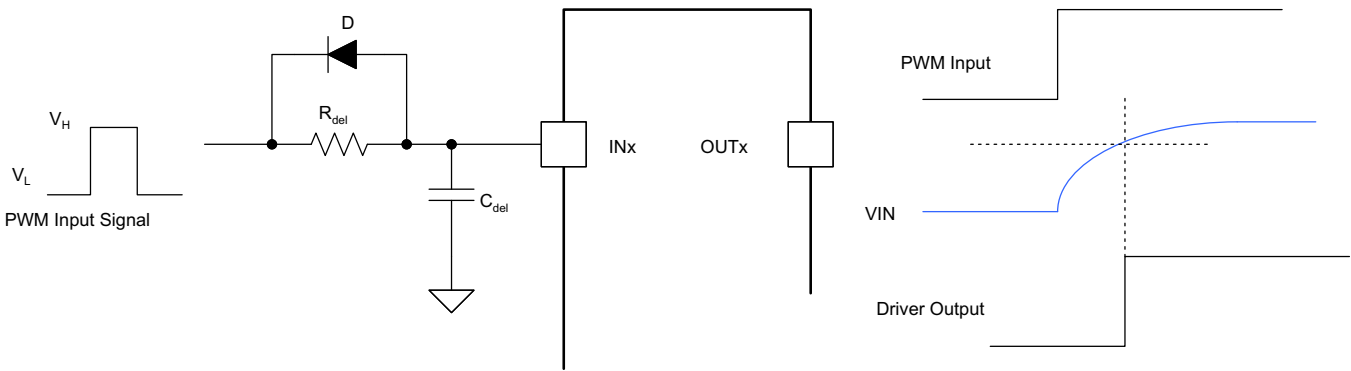

Figure 21. Using RCD Circuits
- Ability to accept slow dV/dt input signals, which allows designers to use RCD circuits on the input pin to program propagation delays in the application, as shown in Figure 21.
The acceptable propagation delay from the gate driver is dependent on the switching frequency at which it is used and the acceptable level of pulse distortion to the system. The UCC27528-Q1 device features fast 17-ns (typical) propagation delays which ensures very-little pulse distortion and allows operation at very high-frequencies. See the Switching Characteristics table for the propagation and switching characteristics of the UCC27528-Q1 device. For certain application that require programmable propagation delay, The UCC27528-Q1 device can accept slow  $dv/dt$  input signals which allows designers to use RCD circuits on the input pin to program propagation as shown in Figure 21.